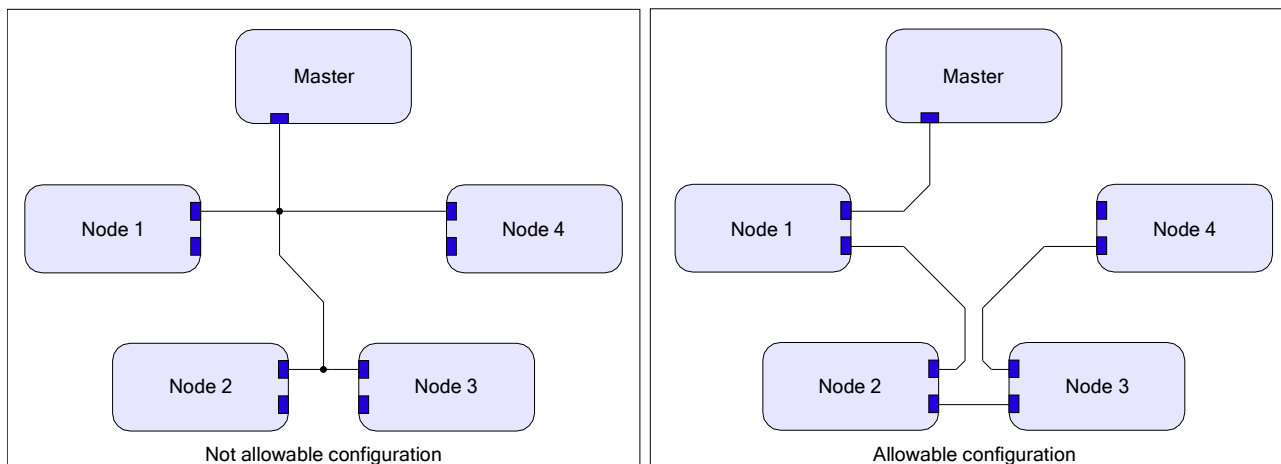

Fig. 2.2 CAN network allowed configuration
- Master and network communication peripherals should be connected in cascade, without shunts/stubs or star connections (as shown in the figure 2.2). Stubs are only envisaged in special cases and in any case for lengths not exceeding 0.3m.